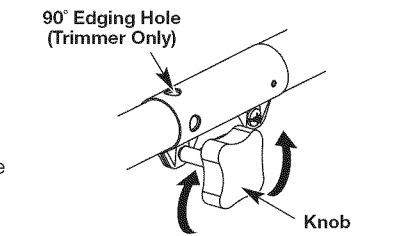

Fig. 5
1. Turn knob counterclockwise to loosen (Fig. 5).
3. Turn the knob clockwise to tighten (Fig. 5).
For decorative edging with the line head trimmer attachment or other attachment, lock the release button of the attachment into the 90° hole (Fig. 5).
1. Turn the knob counterclockwise to loosen (Fig. 5).